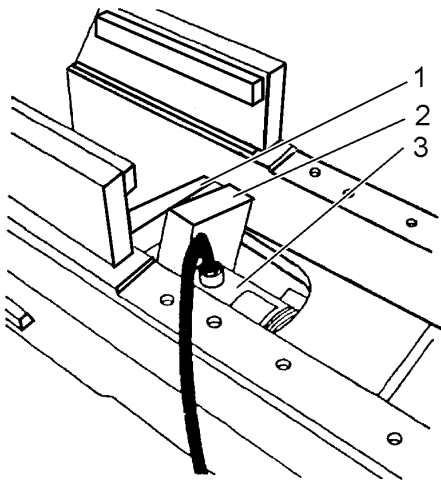

Fig. 14.45. Spacing Installation
12. Measure distance between end of ram and ram rod and install spacing (2, Fig. 14.45) between ream of ram (3) and base plate (1).